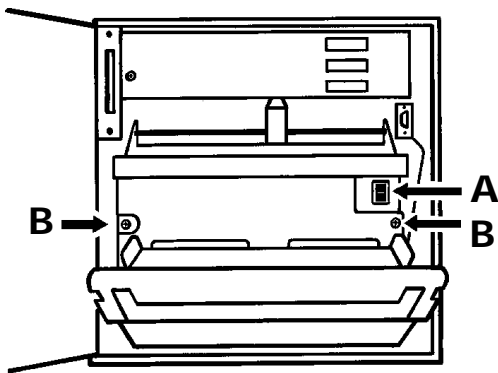
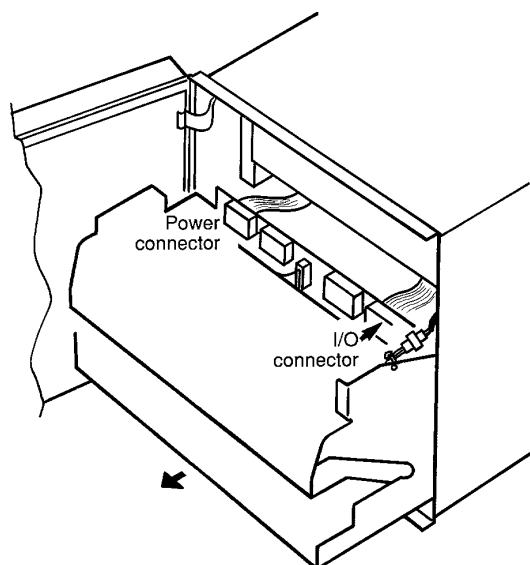

Figure 3.1.1a
Figure 3.1.1c Power and I/O connectors
1. Check that the recorder is switched on ('A' in figure 3.1.1a)
4. Open the recorder door, and undo the two writing system retaining screws ('B' in figure 3.1.1a). With power off, pull the writing system forwards and check the integrity of the power and I/O connectors (figure 3.1.1c). Switch the recorder on and check if the green LED immediately to the right of the I/O connector is on (steadily or flashing). If not - check the power supply loom and replace if faulty. If the loom is OK, replace the power supply. If it is flashing, the micro-processor system is operating incorrectly; - replace the control board.